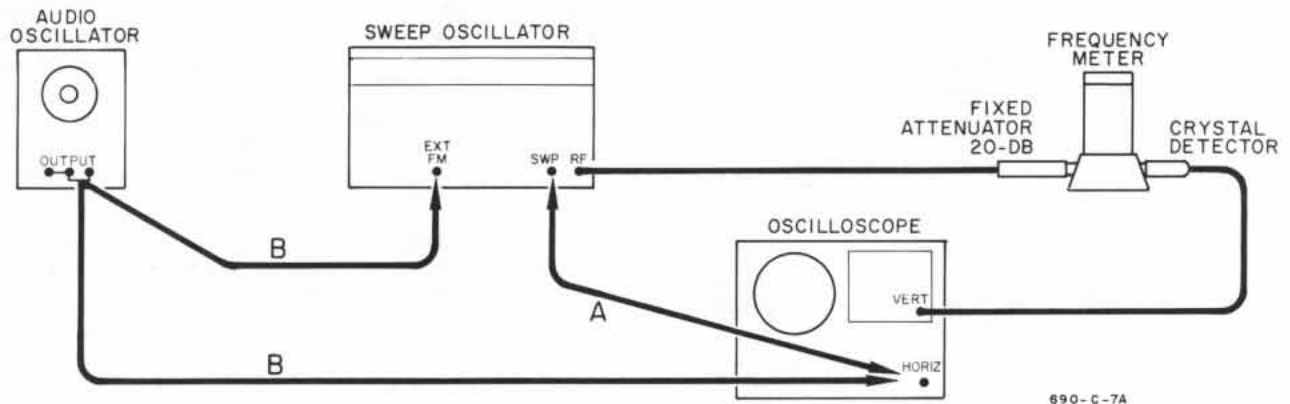

Figure 5-2. Setup for Frequency Calibration and External FM Tests
a. Connect test equipment as shown in Figure 5-2, omitting connections A and B. Allow about 15 minutes for the equipment to stabilize.
- (1) Obtain CW operation at any frequency.
- (2) Set line voltage to 115.
- (3) Wait 2 minutes for stabilization, then tune Frequency Meter to obtain maximum displacement of Oscilloscope dot display. Note Frequency Meter reading.
- (4) Set line voltage to 103 and repeat step (3).
- (5) Set line voltage to 127 and repeat step (3).
- (6) The Frequency Meter reading obtained at 115 line volts should not differ from the reading obtained at 103 or 127 line volts by more than 1 Mc for the Models 691A and 692A, 2 Mc for the Models 693A and 694A.
q. To test ΔF frequency deviation, calibration accuracy, centering and center-frequency accuracy, add connection A in Figure 5-2, then proceed as follows:
- (1) Depress ΔF . On dial, CW and ΔF light.
- (2) Set SWEEP SELECTOR to AUTO, tune START/CW frequency to the middle of the Oscillator range, tune STOP/ ΔF to the highest numbered MC calibration, and set SWEEP TIME (SEC) to .1-.01 (red knob to LINE SYNC).
- (3) Set Oscilloscope display width to exactly 10 cm. This display represents maximum ΔF deviation.
- (4) Tune Frequency Meter to measure frequency at center and at each end of the Oscilloscope display. Total ΔF deviation in megacycles, as given by the difference between the frequencies measured at the ends of the Oscilloscope display, must be within 10% (20%, 691A) of the actual ΔF MC setting with an acceptable additional error of 1% (2%, 691A) of maximum ΔF . For example, both maximum ΔF and the highest numbered ΔF scale calibration on the Model 691A are 100 Mc. Maximum acceptable Model 691A ΔF error is then 20% of 100 Mc (the ΔF setting) plus 2% of 100 Mc (maximum ΔF), or ± 22 Mc total. Similarly, if the ΔF setting were 50 Mc, maximum acceptable error would be 20% of 50 Mc (the ΔF setting) plus 2% of 100 Mc (maximum ΔF), or ± 12 Mc total.
- (5) The ΔF center (CW) frequency must equal the START/CW dial reading within $\pm 1\%$.
- (1) Add connections B in Figure 5-2, and set Audio Oscillator to 100 cps.
- (2) Set START/CW to the middle of the Sweep Oscillator frequency range.
- (3) Set the Frequency Meter to the highest frequency in the Oscillator range.
- (4) Depress EXT FM.
- (5) Increase Audio Oscillator output until the Frequency Meter notch appears at the right-hand end of the Oscilloscope display. Audio Oscillator output must not exceed 14 volts rms.